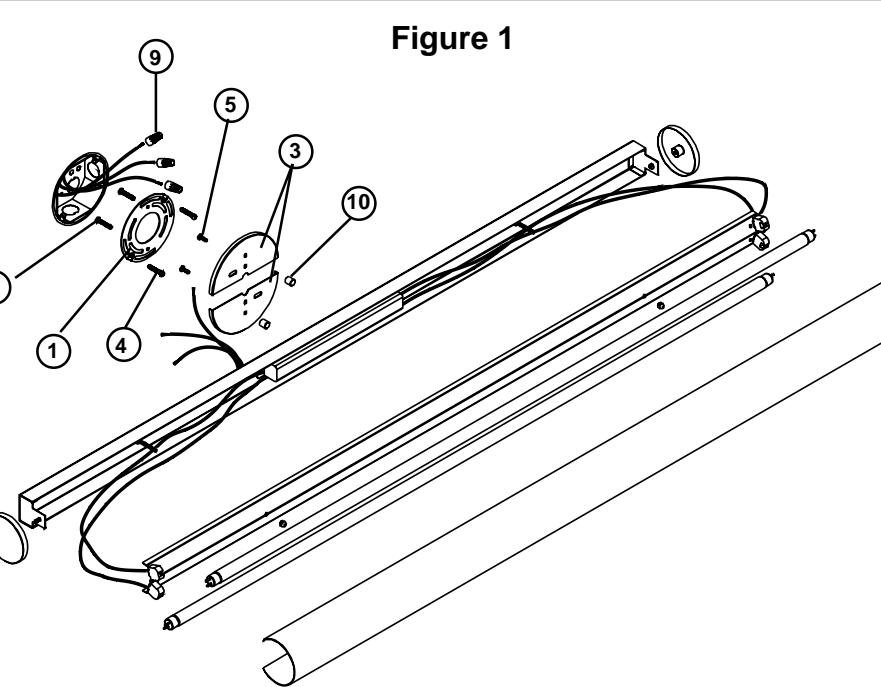

Figure 1
- Remove fixture components and parts pack(s). Check that all parts are included. See Figure 1. Unscrew one end cap and slide diffuser off and remove both lamps. Remove packing material. Warning: Safely dispose of packaging materials.